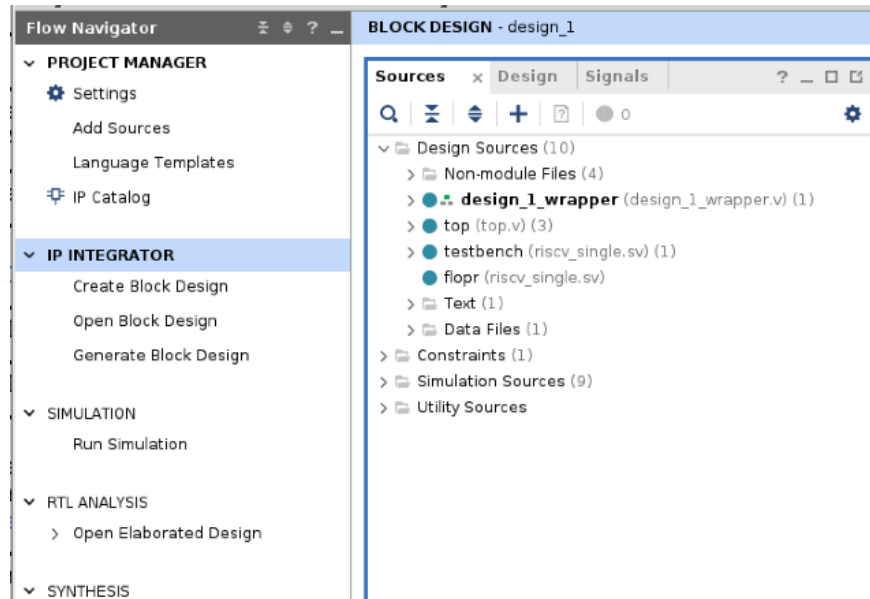

Figure 3: Open Block Design and Sources Window
If you need to make modifications to your files, you will need to do so in Vivado now because **the script will copy the file on your desktop into the project directory**. Modifications made to the file on your desktop will not be reflected in the project. Go to Open Block Design on the left panel and then select the Sources tab in the upper left window (i.e., Figure 3). You'll have to do a bit of digging through the source tree to get to your RISC-V core because this project has many components in the background to make things run, expand the `design_1_wrapper`, `design_1`, `top_0`, `design_1_top_0_0`, and finally
1. Navigate to the sources view as explained in the previous section under step 5 and shown in Figure 3. You'll want to descend the source tree just like it was explained before, but this time open `imem.sv` instead of `riscv_single.sv`. Inside this file, you will find the following line:
1. Click Add Sources under the Project Manager heading on the left panel (i.e., Figure 3).